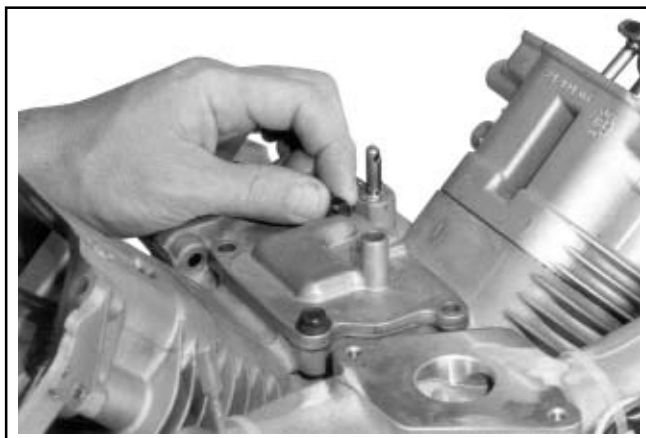

Figure 11-54. Installing Screws (Locations 3 and 4).
3. Position the breather gasket and cover on the crankcase. Install the first two hex. flange screws in locations 3 and 4 shown in Figure 11-54. Finger tighten at this time.